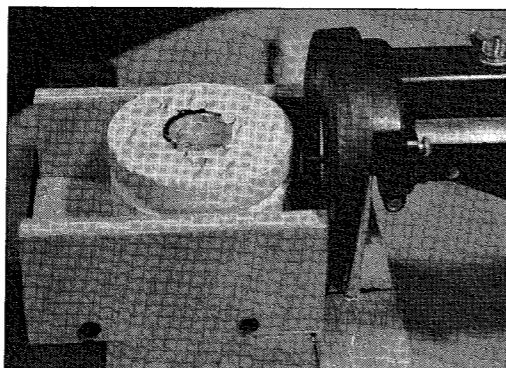

Figure 5
A detailed description of the piston creation process can be found below. You will need the following special equipment: toothpicks, a dulled 1" wood boring bit, a 3/8" Dremel Router bit, and a Dremel tool in a Dremel Router guide, mounted as in figure 5.
9. Mill 2 grooves 7/32" deep, 1/2" in from either end, on the outside of the piston. Use a Dremel with a 3/8" bit in the Dremel router guide mounted on end. (Figure 5)